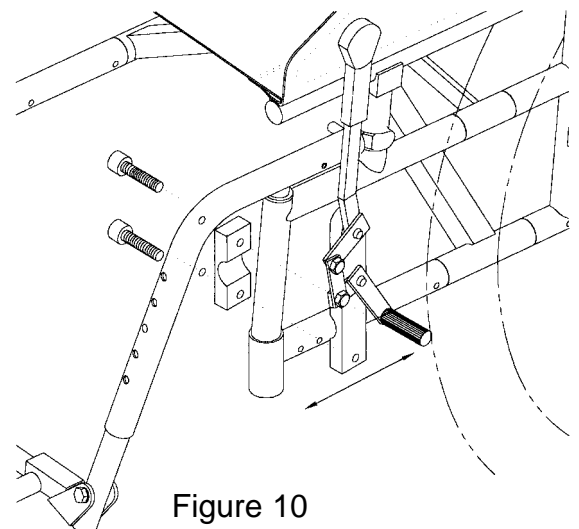

Figure 10
- 10 The brakes will also need to be repositioned if you have selected an alternative wheel position (see FIG 10). Loosen the two socket head cap screws. Position the brake assembly on the wheelchair frame ensuring that the brake is effective. Finally tighten the two socket head cap screws in the clamp to 13.55-16.26 Nm (10-12 lbs/fit).